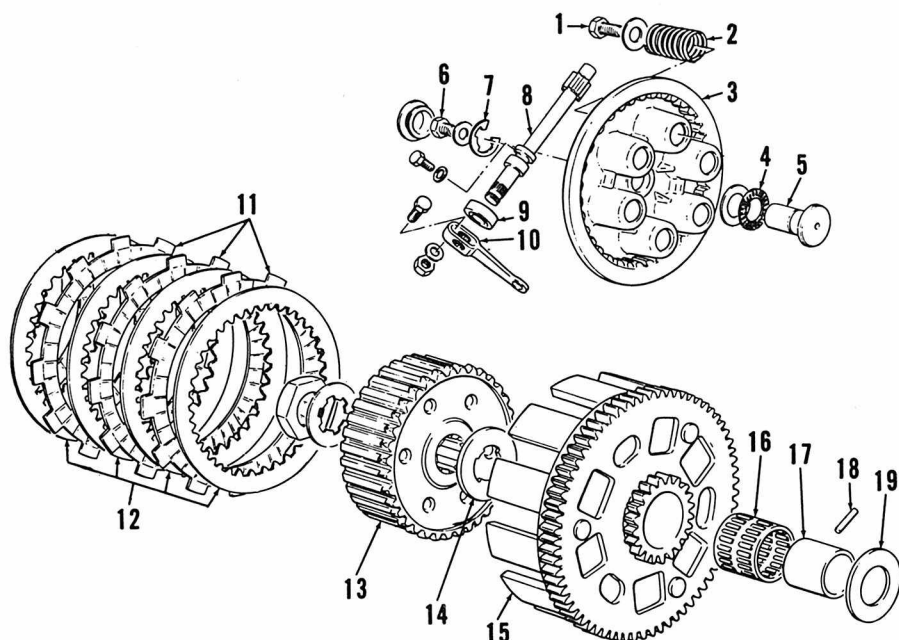

Fig. S13-13—Exploded view of TM 400 R clutch assembly.
Standard thickness of friction disc (11—Fig. S13-13) is 0.138 inch (3.5 MM). Discs should be renewed if worn thinner than 0.126 (3.2 MM) thick. Steel plates (12) should be renewed if warped more than 0.004 inch (0.1 MM). Standard free length of clutch springs (2) is 1.58 inch (40.4 MM). Springs should be renewed if less than 1.53 inch (39 MM) long. Clutch hub (13) should be renewed if step wear from steel plates is excessive on splines. Carefully inspect clutch release rack bearing (4) for wear or breakage. When fitting right crankcase cover, remove rubber plug and screw (6). Use a large screw driver to position release rack (5) for proper alignment with pinion (8).